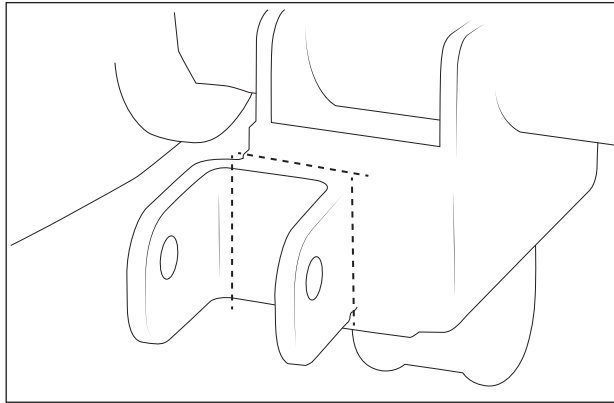

Figure 4
- a. Cut bracket at factory welds along outside radii along the top of the bracket (Fig. 4).